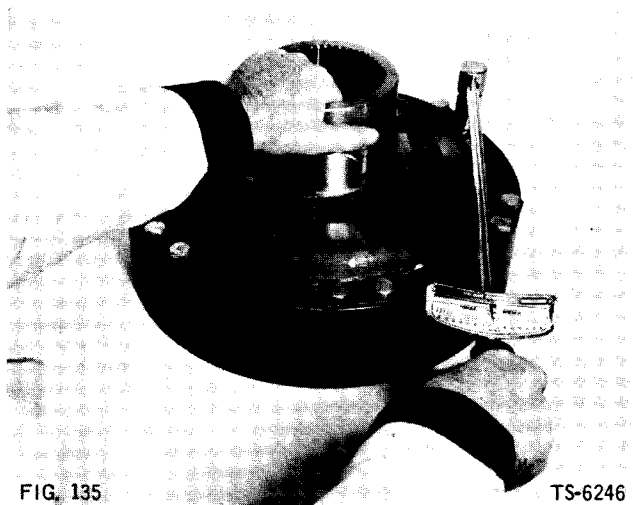

FIG. 135
1. Position internal gear on hub, aligning matchmarks made at disassembly. Secure with bolts and locking plates and tighten to specified torque (Fig. 135). Lock-wire bolts in pairs.